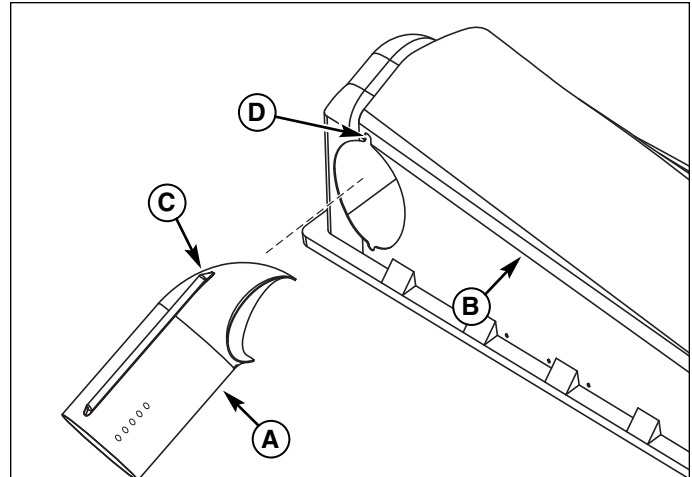

Figure 9. Install Upper Tube to Cover
1. Slide the upper tube (A, Figure 9) into cover (B) aligning ridge (C) with cutout (D).